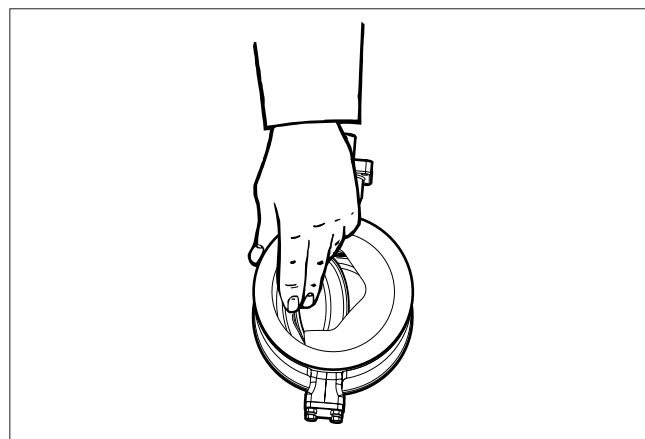

Fig. 28 Slipping the seat into the body
- Place the seat package into the body as shown in Figs. 28 and 29.